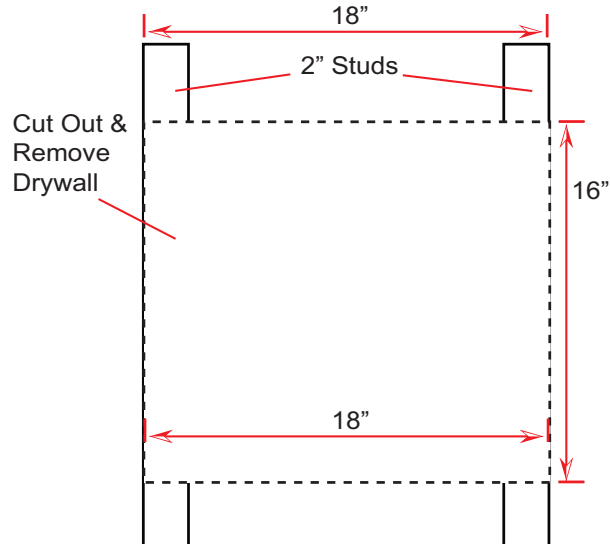

Figure 4. Preparing Mounting Surface for Plywood Wall Mounting
- b. Identify and mark an installation area on the drywall between the outer edge of each stud that matches the size of the plywood (at least 18 in. W x 16 in. H) (Figure 4). Then cut out that area of the drywall.